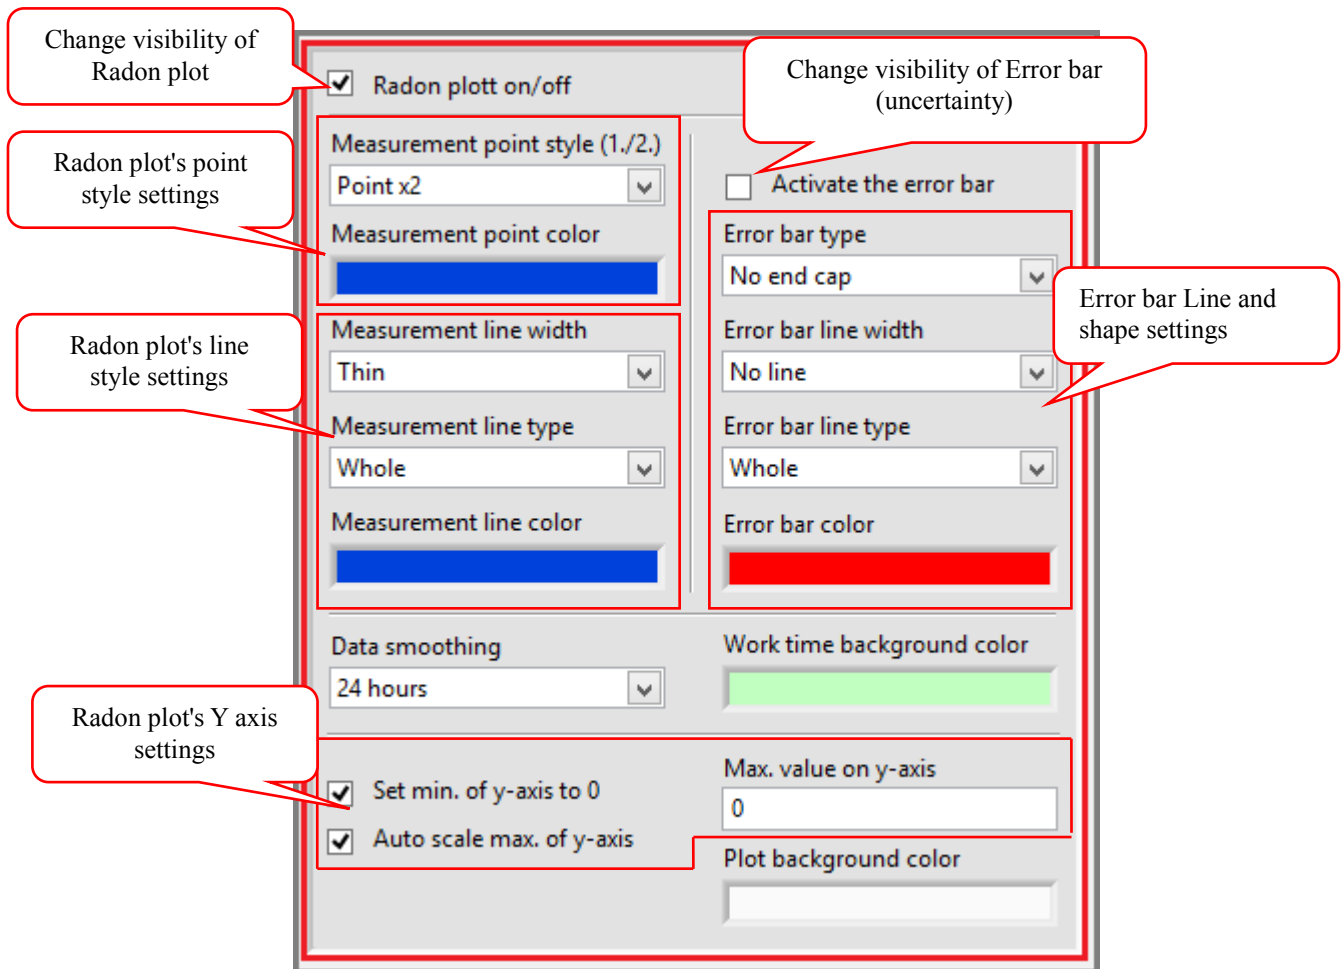

Figure 4-15: Plot TAB-Plot Options Left section
- a) The Left section is used to customize the **Plot settings for Radon Concentration** only. Refer Figure 4-15.